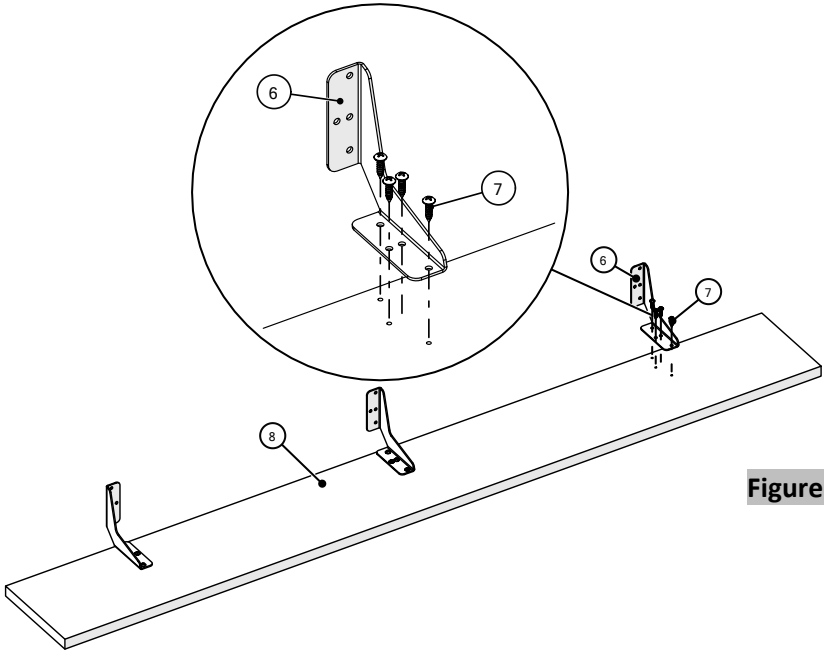

Figure 5
- Position the cantilever bracket over pilot holes of modesty; insert (4) #8 x 5/8" Pan Quadrex drive screws per bracket and tighten, (Figure 5).